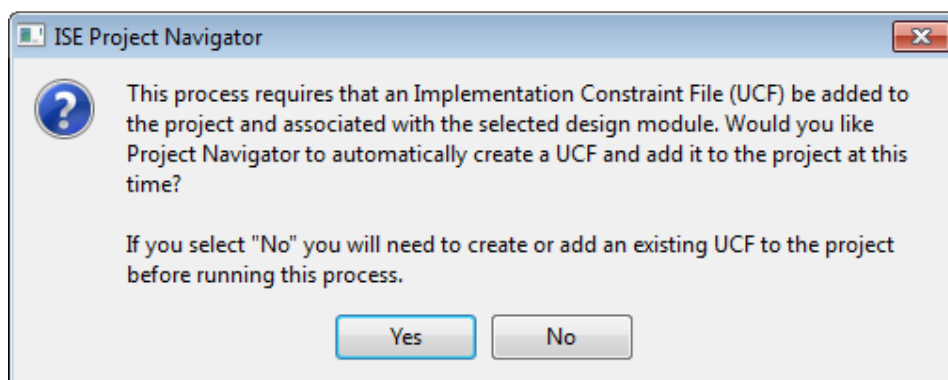
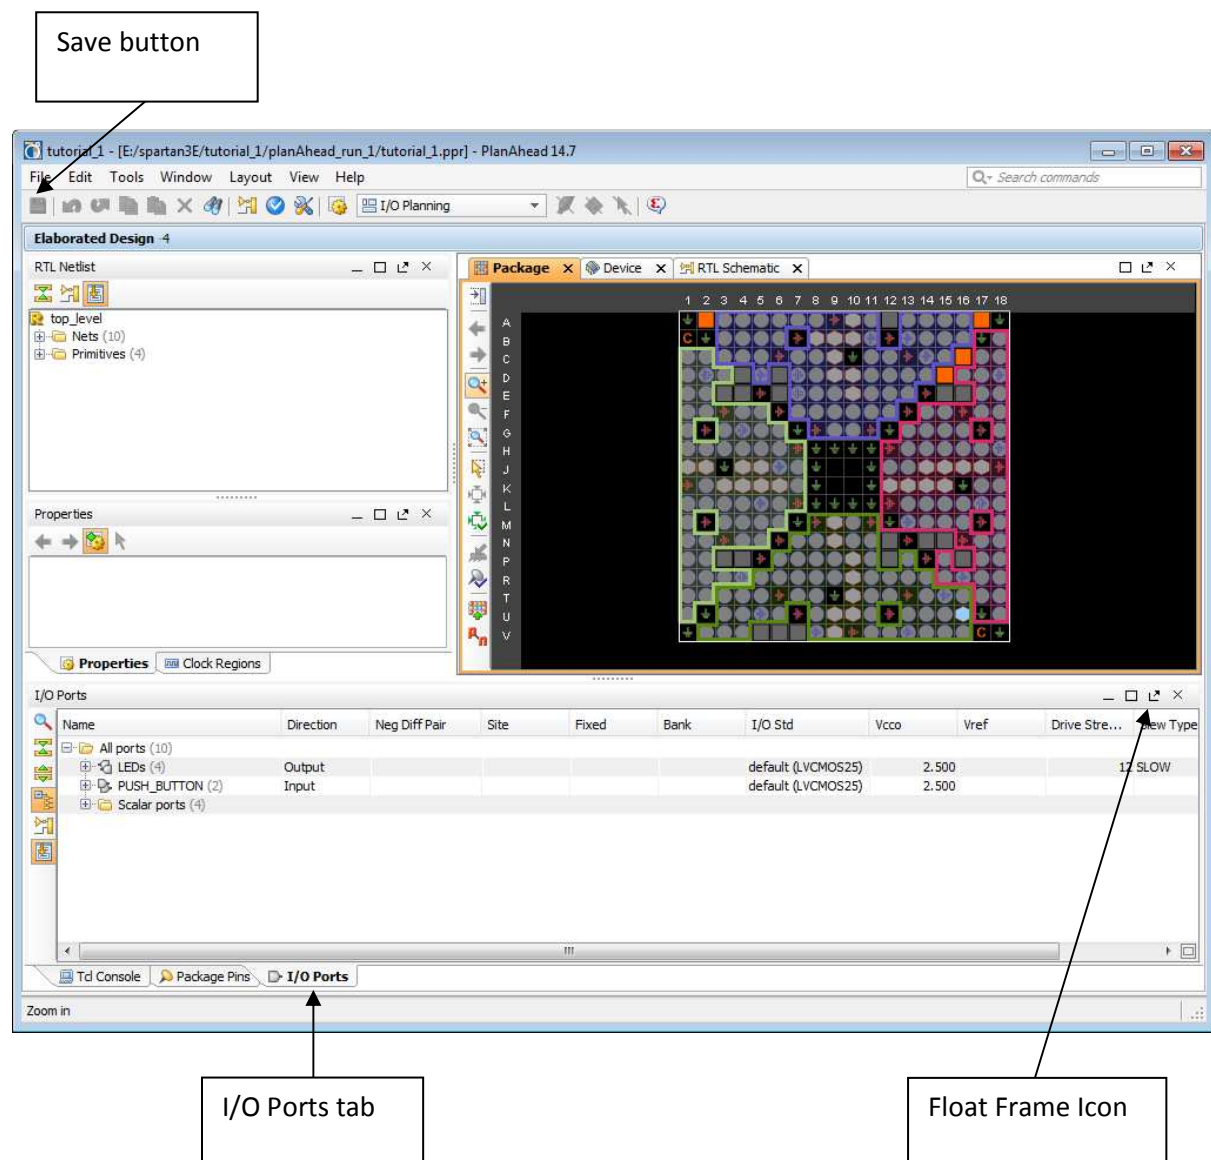
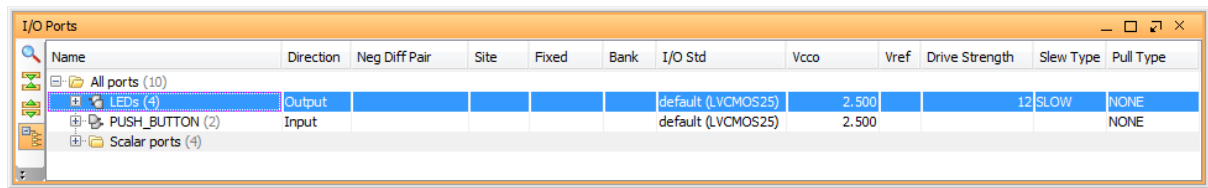
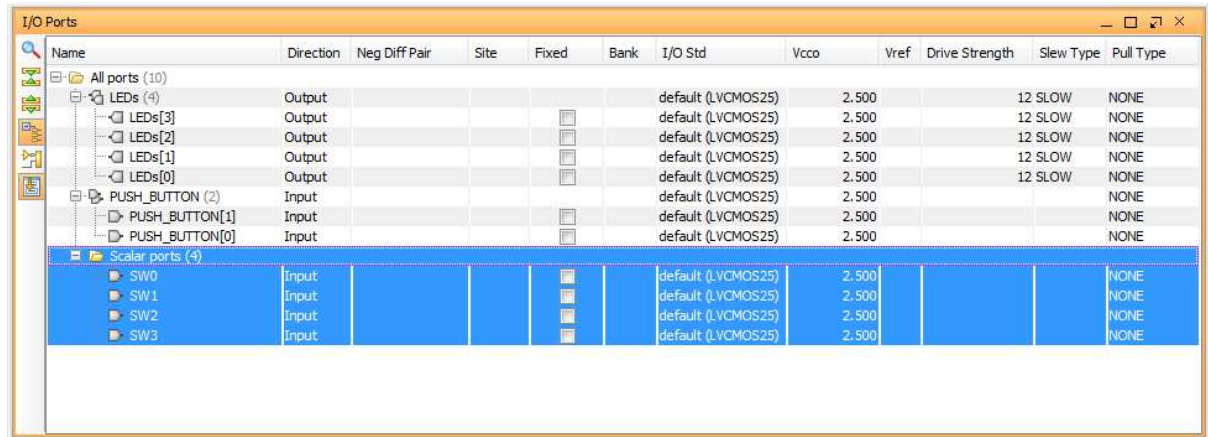

Figure 3.17: Dialog Box asking if you wish to create an Implementation Constraint File.
Figure 3.18: Initial appearance of PlanAhead window.
Figure 3.19: I/O Ports displayed in a separate window.
Figure 3.20: I/O Ports window with individual ports expanded.
2. Double-click on **I/O Pin Planning (PlanAhead) – Pre-Synthesis**. The first time this is done, the window of Figure 3.17 will appear, asking whether it is OK to create a UCF file. Click **Yes**.
3. After clicking **Yes** in Figure 3.17, the **PlanAhead** window of Figure 3.18 will appear. Click on the **I/O Ports** tab, and then the **float frame** icon. This display the I/O Ports in a separate window, as shown in Figure 3.19.
- Click on the '+' next to **LEDs(4)**, **PUSH_BUTTON(2)** and **Scalar ports** in Figure 3.19. This will display all individual input/outputs as shown in Figure 3.20.
- Click the **Save** button in the PlanAhead window (location of Save button is shown in Figure 3.18), to save the entered pins. The PlanAhead window can be closed at this stage.